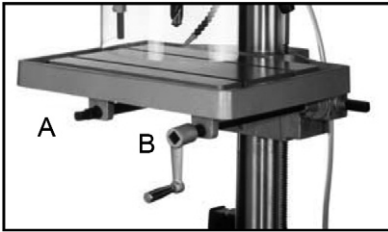
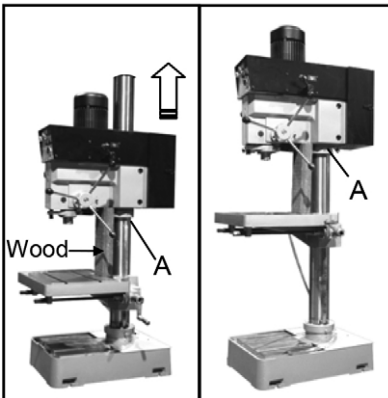
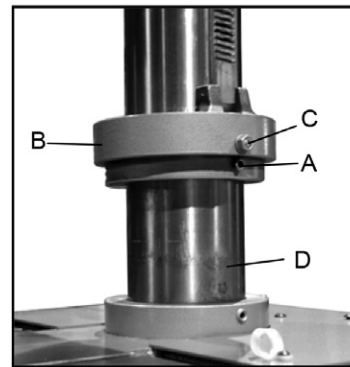

Figure 3
Figure 4
Figure 6
1. Unlock the table. Use crankshaft (A, fig. 3), counterclockwise.
4. Raise the table and support block to the machine head. Use crankshaft (B, fig. 3), clockwise. Do not place the block under the lock collar (A, fig. 4).
5. Secure the collar. Check the two set screws (A, fig. 4).
7. Raise the head to the highest position. Use crankshaft (B, fig.3), clockwise.
9. After the head is set and locked, unlock the collar. Loosen two set screws (A, fig. 4).
11. Lock the collar. Firmly tighten two set screws (A, fig. 4).
1. Lock the table. Use crankshaft (A, fig. 3), clockwise.
2. Unlock column bearing collar (B, fig. 6). Loosen the two set screws (A, fig. 6).
CAUTION: Do not loosen lock nuts (C, fig. 6).
3. Raise the rack (D, fig. 6). Use crankshaft (B, fig. 3), clockwise.
4. Lock column bearing collar (B, fig. 6). Tighten the two set screws (A, fig. 6).
3. Adjust the table to the desired height. Use crankshaft (B or C, fig. 3).
4. Use crankshaft (A, fig. 3) to lock the table lock. Attach and rotate the riser handle clockwise.